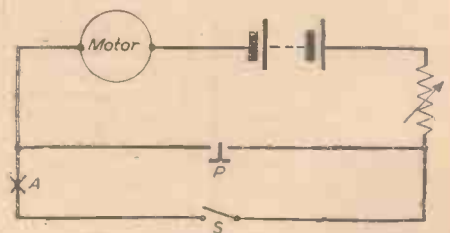
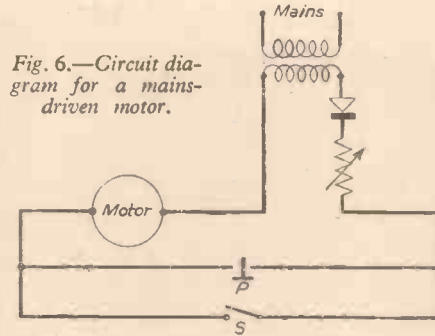

Fig. 5.—Circuit diagram if the motor is battery driven.
Fig. 6.—Circuit diagram for a mains-driven motor.
If the motor is battery driven then the circuit diagram is as shown in Fig. 5, but if driven from the mains then the circuit diagram is as shown in Fig. 6. The circuit shows two switches in parallel. Before the button (P) on the door is pressed both switches are open. When (P) is depressed (S) automatically closes and remains so until one revolution of the camshaft has been completed and it again opens. Switch (S) is the micro switch shown in Fig. 3 and is operated by a ratchet attached to the camshaft touching the switch strip and thus operating the switch. The strip is made from a piece of clock spring which gives